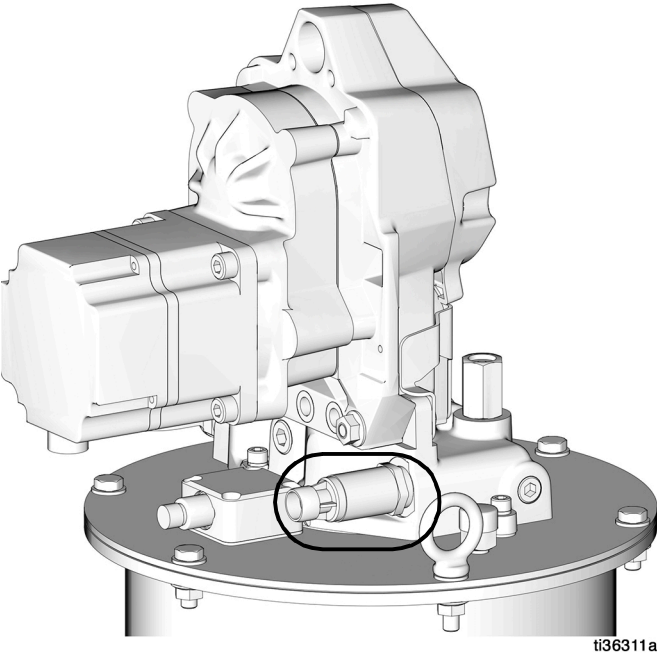

FIG. 23
The pressure switch (T) is factory set to 3000 psi (20.7 MPa, 207 bar) (FIG. 23).